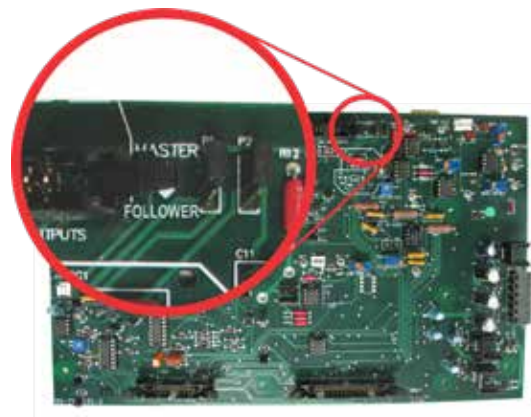

Figure B.2.37 – Location of Master/Follower Jumpers on the Amplifier Main Board
- B. Using a #2 Phillips screwdriver, remove the eight (8) screws located on the top and side of the amplifier.
- A. On the main board, locate the jumpers P1 and P2 (Master/Follower). See **Figure B.2.37** for jumper locations.